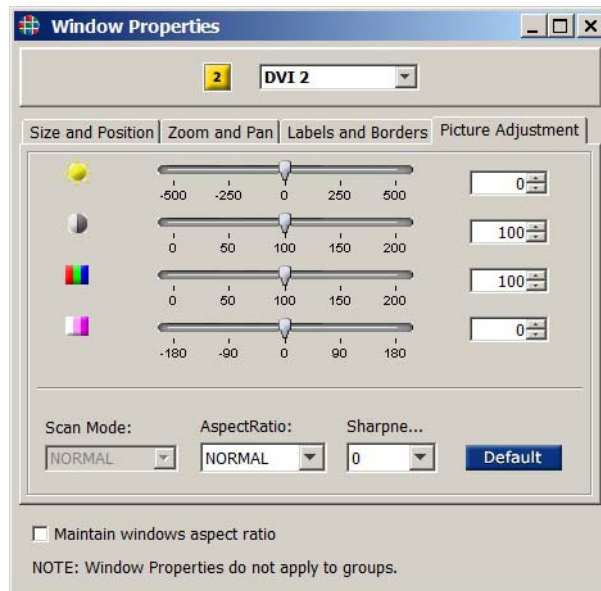

Figure 3-12 Picture Adjustment Tab
1. On the **Windows Properties** page, select the **Picture Adjustment** tab (Figure 3-12).